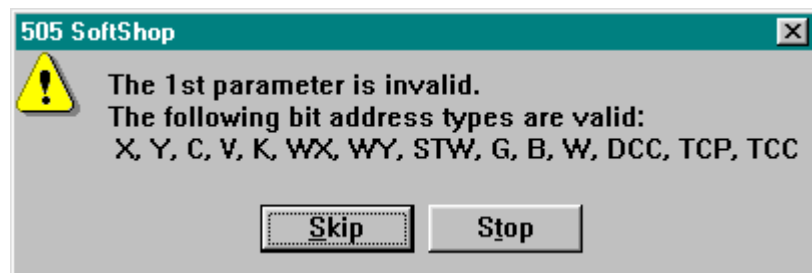

Figure 6.6c
6. **Skip on Error.** When the Skip on Error's check box is chosen on the Replace dialog box. The program will skip illegal replacements and go on to the next item to be replaced automatically. If skip is not chosen the program will flag illegal replacements and the following options are displayed in Figure 6.6c.